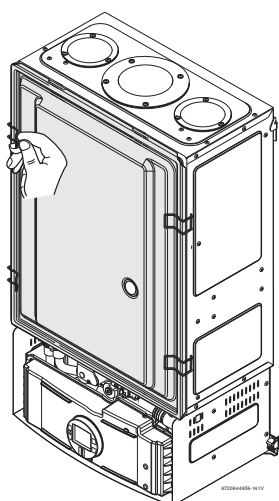

Fig. 5 Remove the combustion cover
- Open the four clips and remove the combustion cover see Fig. 5.